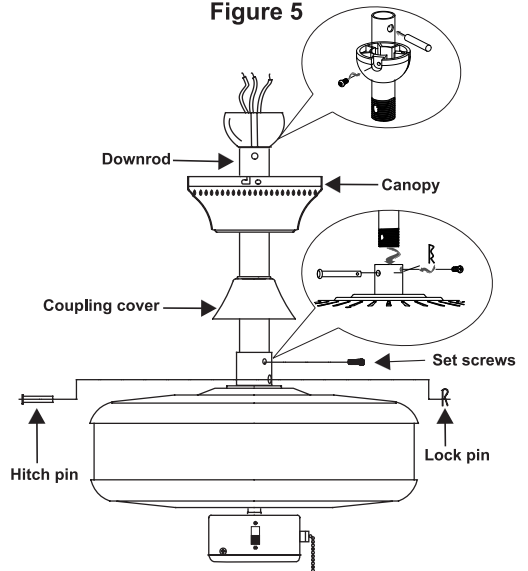

Figure 6
Step 4. Route wires exiting from the top of the fan motor through the coupling cover, canopy and then through the ball/downrod. (Fig. 6)
Step 5. Align the holes at the bottom of the downrod with the holes in the collar on top of the motor housing. Carefully insert the hitch pin through the holes in the collar and downrod. Be careful not to jam the pin against the wiring inside the downrod. Insert the locking pin through the hole near the end of the hitch pin until it snaps into its locked position. (Fig. 6)